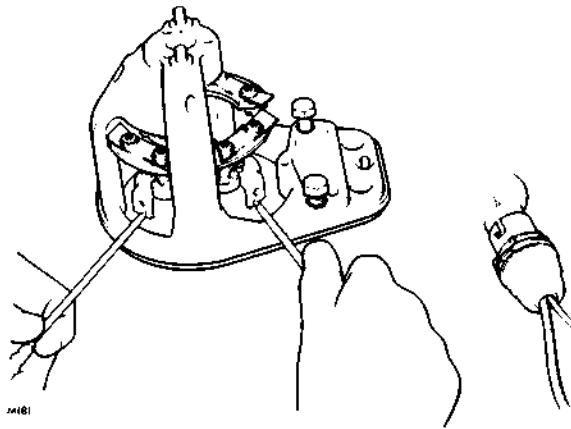

FIG. 5. CHECKING THE BRUSH GEAR (a)
- a. The positive and negative brush holders (Fig. 5).